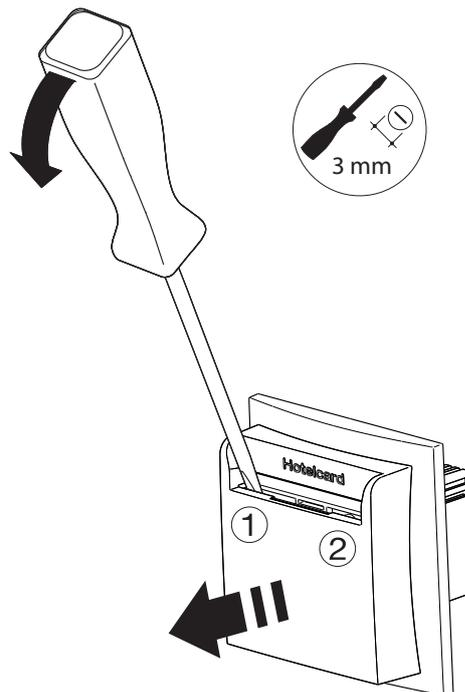

Figure 5
- Remove design cover. To do this, enter slot screwdriver into the opening of the hotel card receptacle (Figure 5) and loose and remove design cover by careful repeated levering on the left ① and on the right hand side ②.
- Run slot screwdriver through recess of the hotel card receptacle and set delay time by turning the potentiometer (7).